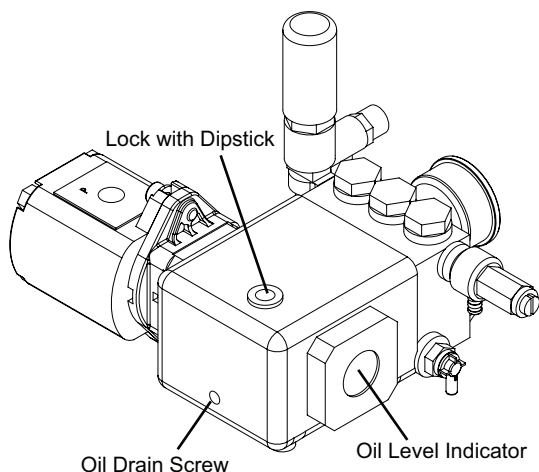

Figure 16
- Remove the dipstick from the lock (Figure 16).
- Remove the oil drain screw (Figure 16).
- Pour in the fresh oil through the lock (Figure 16).
- Fill the fresh oil up to the middle line of the oil level indicator (Figure 16).